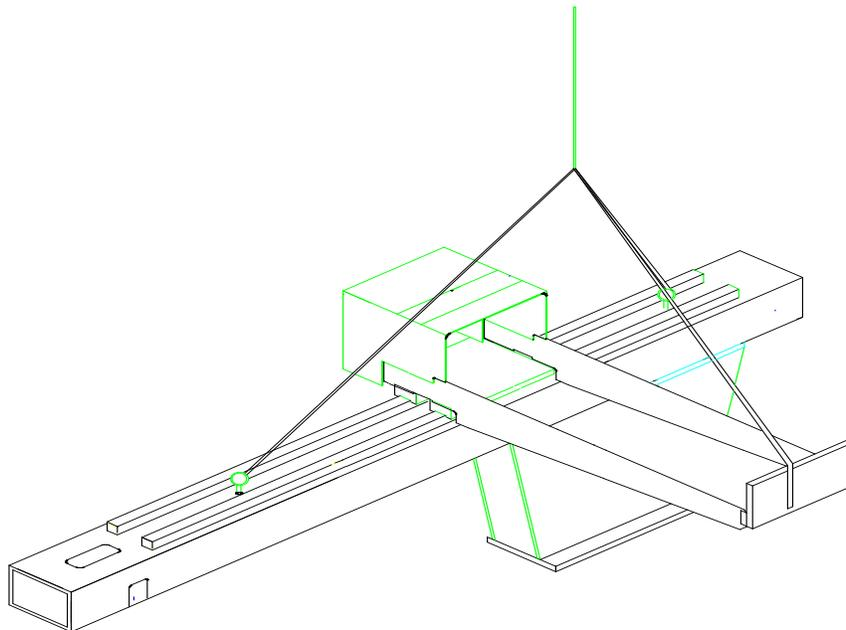

Figure 3.2.3
5. Lift the AZ-Series onto the stationary platen using a crane or hoist with a cable rated not less than 1 ton (908 Kg) minimum. Lift at the three points shown in Figure 3.2.3 with the cables looped through the hoist rings at points A and B and around the front of the carriage, point C. Carefully locate the balance point
of the robot by positioning the Y axis carriage and clamping it in a secure position on the X axis as shown in Figure 3.2.3.